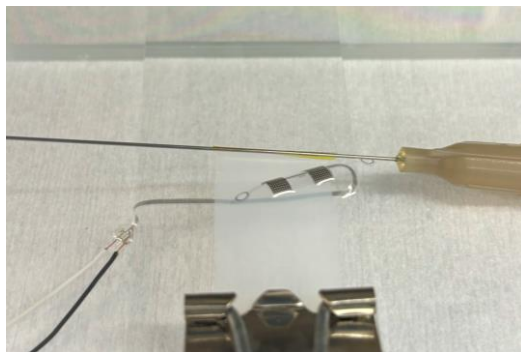

Figure 5-2: Initial placement of the device on the thermoforming fixture.
3. Slide the electrodes over the Teflon film and align them near the mandrel (see Figure 5-2)